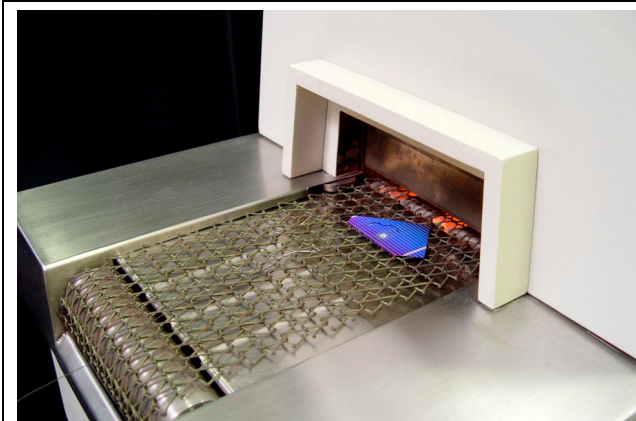

Figure 6-9 Silicon Wafer Entering Furnace
- E. Place sample on belt. As part passes furnace entrance (Figure 6-9), start data logger.